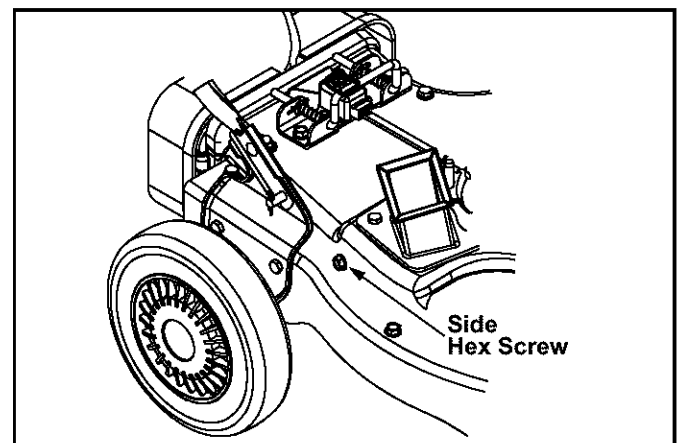

Figure 11
3. Remove hex screw on right side of unit that attaches to the flail screen. See Figure 11.